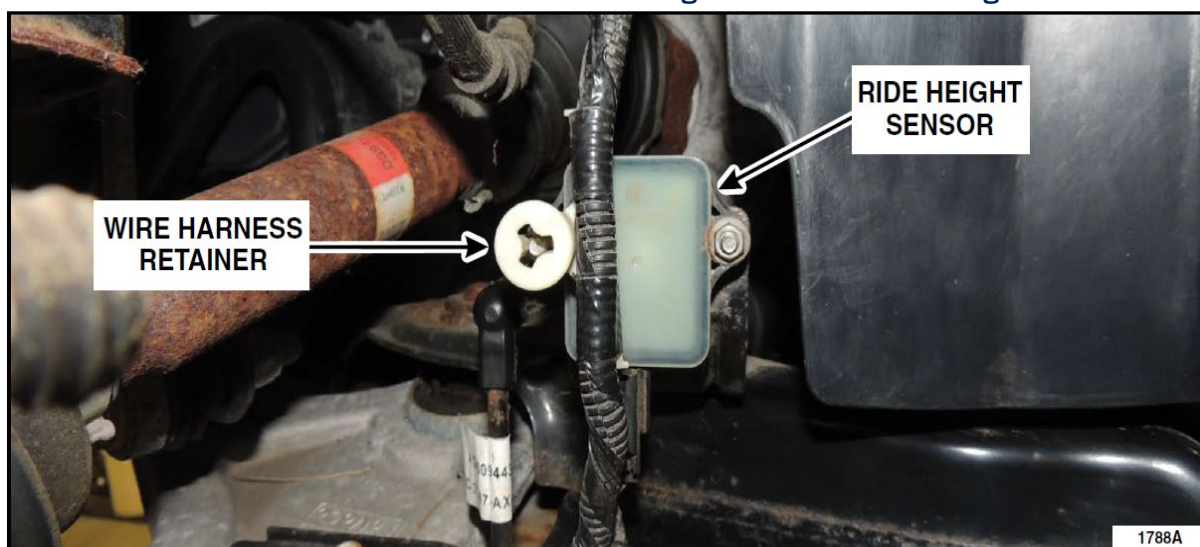

FIGURE 1
4. Remove the wire harness retainer from the ride height sensor stud. See Figure 1.